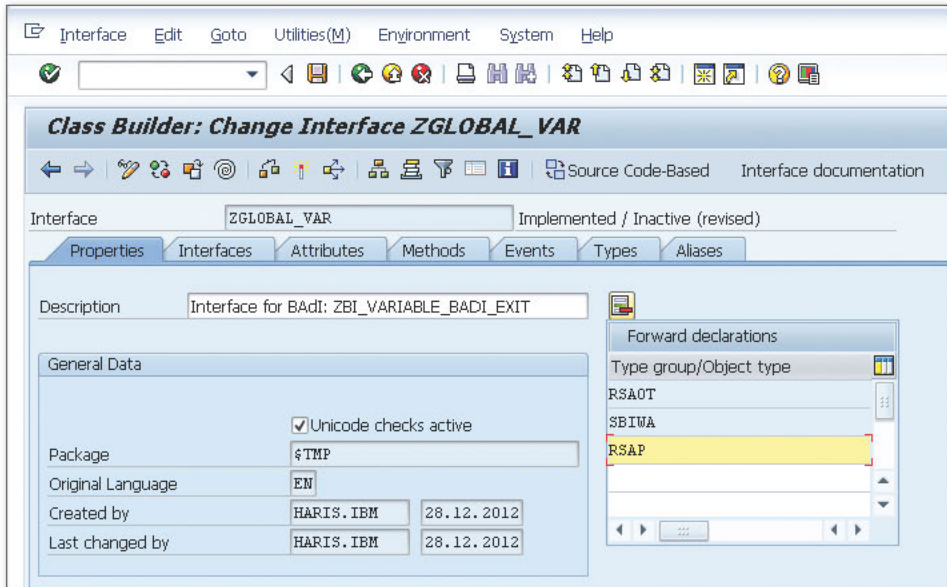

Figure 2 Create a BAdI for a Variable
6. Under the PROPERTIES tab, enter TYPE GROUP/OBJECT TYPE as needed and keep the other tabs unchanged (see Figure 2).